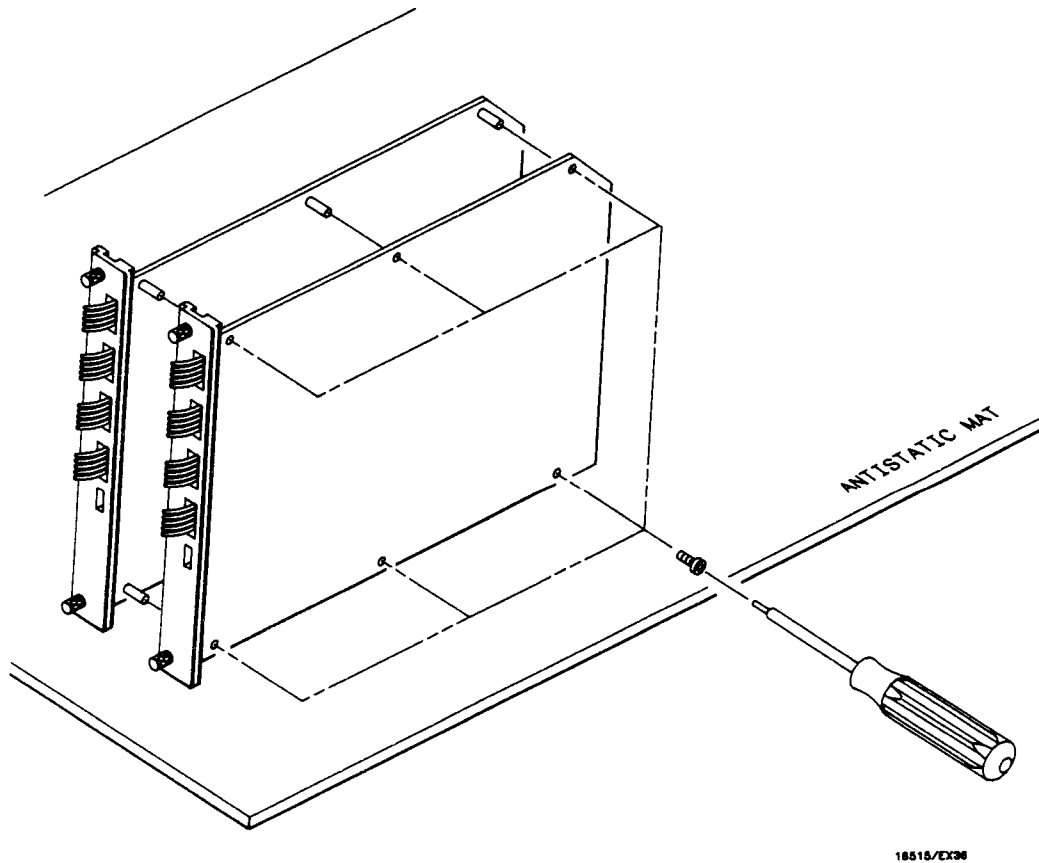

Figure A-7. Cards Fastened Together
7. Fasten the timing analyzer expansion card to the timing analyzer master card using a No. 10 torx  driver and the six screws furnished with the timing analyzer expansion card. See figure A-7